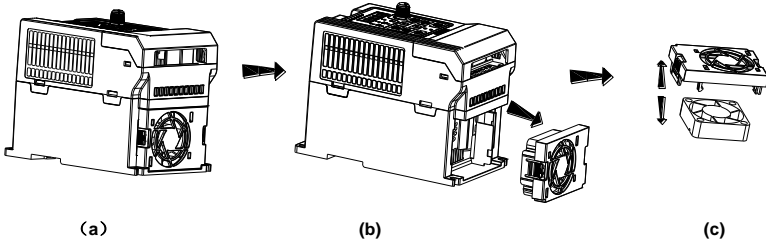

Figure 8-1 Remove the fan
- Step1: Hold the elastic buckles on both sides of fan shown as figure 8-1(a), meanwhile use a little harder to pull out in parallel, the fan cover will be removed from inverter.
- Step2: Press the elastic buckles of fan lead terminal toward internal side shown as figure 8-1(b), meanwhile pulling out the fan lead terminal with a little harder.
- Step3: Please draw out the buckles of fan cover shown as figure 8-1(c), and then use a little harder to separate cooling fan and fan cover.